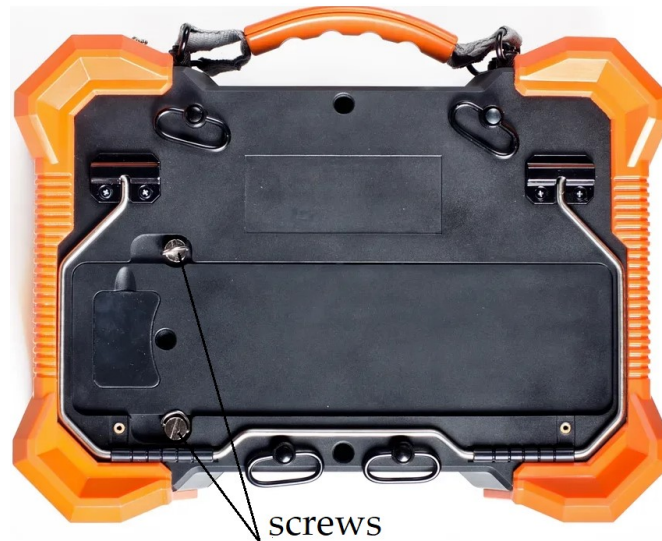

Figure 58. Battery replacement.
Figure 58 shows the appearance of the rear cover of the PEC Flaw Detector PE4332 housing. The Figure show screws with D-ring.
- Loosen the screws (see Figure 58) using a slot screwdriver or fingers (D-rings enable to loosen the screws without the screwdriver),